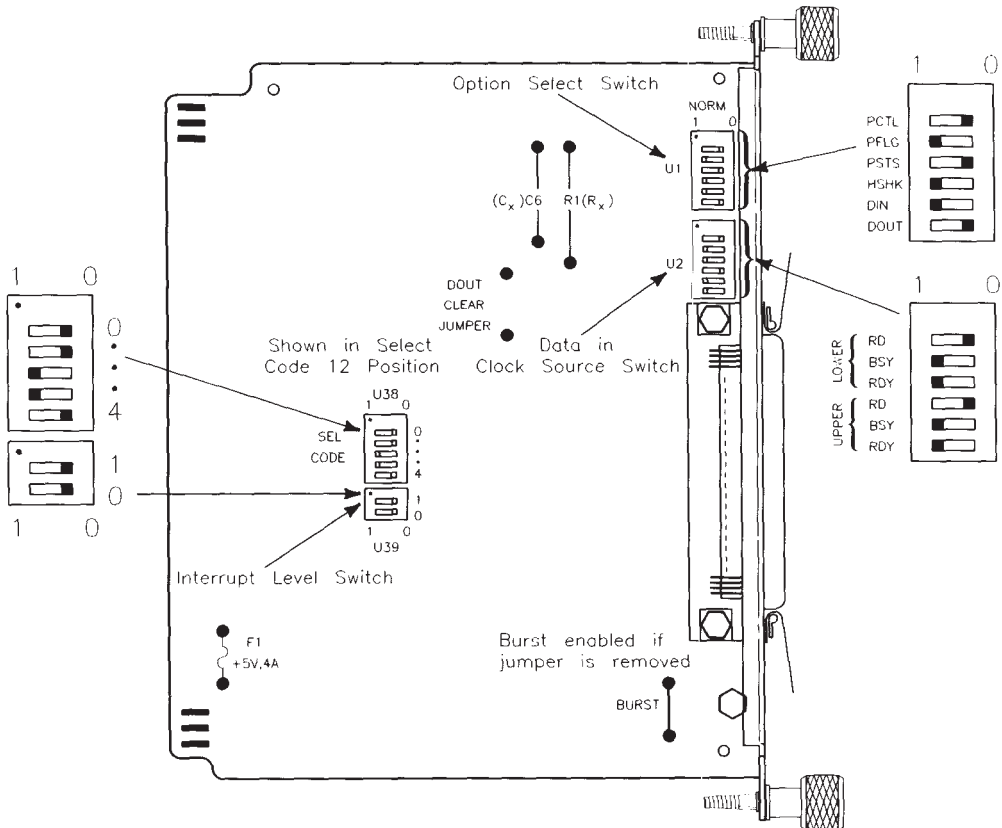

Figure 5-6.
- a. Find the set of five switches labeled U38 on the GPIO Interface (Figure 5-6). This group of switches determines the select code.
- a. Set Interrupt Level switch, labeled U39 on the card, to interrupt level 3 (00) as shown in Figure 5-6 (interrupt level 3 is required for HP-UX). If your application requires a different setting, refer to Table 5-3.
- b. Set the Data-in Clock Source switches (labeled U2). If connecting an HP 9884A Paper Tape Punch to this interface, set these switches as shown in Figure 5-6.